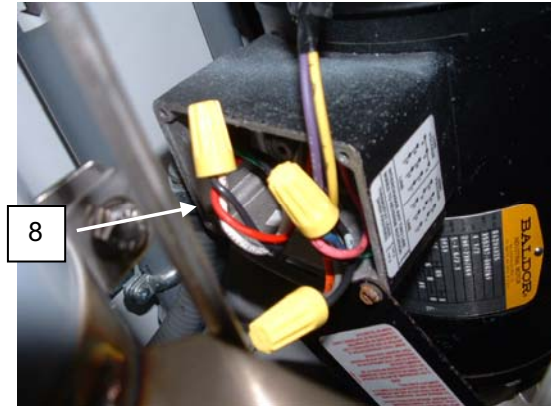

Figure 5. Conduit for P-4 Pump.
7. Remove locknut retaining conduit (**Figure 5, Item 8**) and remove conduit.
When withdrawing the impellor stack, support the stack from the bottom as soon as the stack is clear of the pump. While the pump shaft may be expected to be tight, there is also a chance that the shaft (**Figure 5, Item 3**) may be loose and the impellor stack may fall off the stack.